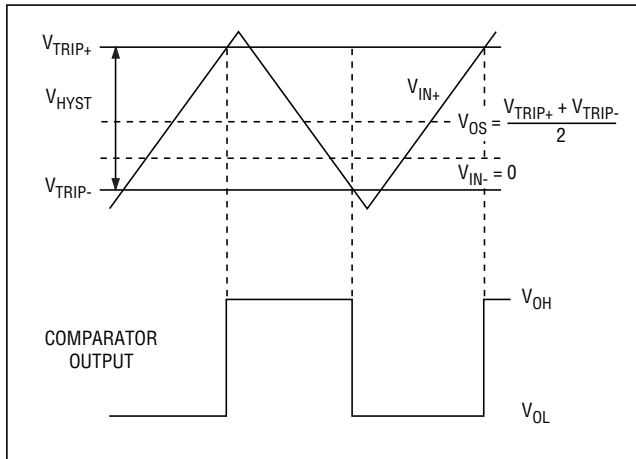

Figure 1. Input and Output Waveforms, Noninverting Input Varied
- Note 1:** Trip Point is defined as the input voltage required to make the comparator output change state. The difference between upper (V_{TRIP+}) and lower (V_{TRIP-}) trip points is equal to the width of the input-referred hysteresis zone (V_{HYST}). Specified for an input common-mode voltage (V_{CM}) of 0 (see Figure 1).
- Note 2:** Input Offset Voltage is defined as the center of the input-referred hysteresis zone. Specified for $V_{CM} = 0$ (see Figure 1).
Adding hysteresis to a comparator creates two trip points: one for the input voltage rising and one for the input voltage falling (Figure 1). The difference between these two input-referred trip points is the hysteresis.
Figure 1 illustrates the case where IN- is fixed and IN+ is varied. If the inputs were reversed, the figure would look the same, except the output would be inverted.